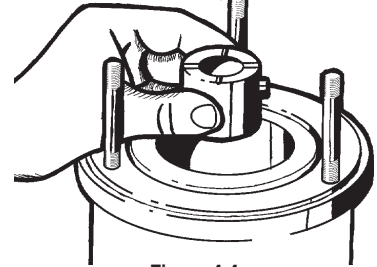

Figure 4-4
2. Install the cartridge bearing (#16C) into the motor with the face grooves facing up, refer to figure 4-4. Make certain the screw head slides into the groove in the bearing holder in the motor. Be careful not to install the cartridge bearing (#16B) which belongs in the motor bracket (#84). If you are uncertain which bearing goes where, refer to figure 4-5.